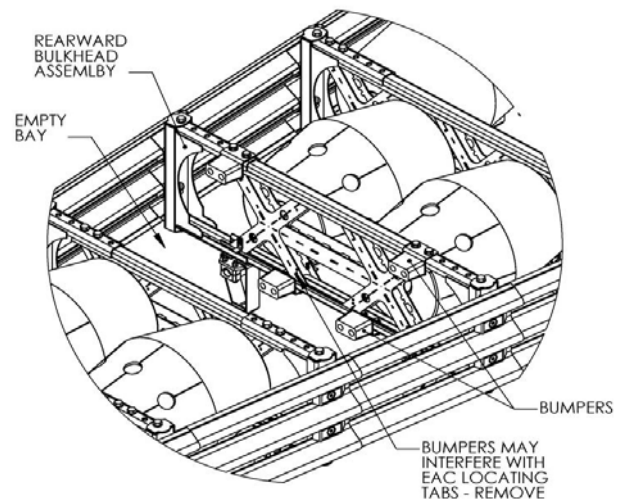

Figure 12 Empty Bay Bumpers
Some systems require an empty bay (no Energy Absorbing Cartridges). These systems utilize a Bumper Kit to minimize damage in an impact (Figure 12). The kit includes (4) Bumpers that mount to the rear bulkhead assembly of the empty bay. Two Bumpers mount to the top of the assembly at the Wing to Bulkhead joint using the same hardware. The other two Bumpers mount through the Leg to the Wing – Bulkhead joint.